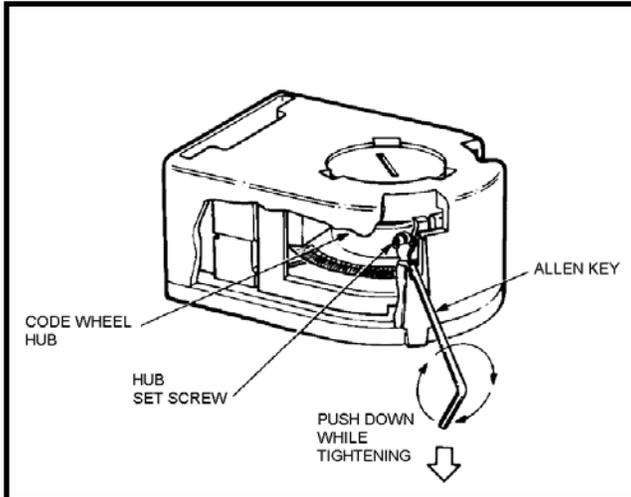

Figure 7-27: Adjusting the Encoder
4. While continuing to apply a downward force, rotate the Allen Key to the clockwise direction until the hub set screw is tight against the idler shaft (Figure 7-27). Remove the Allen Key by pulling it straight out of the encoder body.